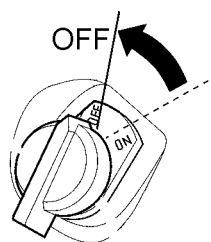

Figure 22. Engine ON/OFF Switch (OFF)
- Place the engine ON/OFF switch (Figure 22) in the "OFF" position
- Place engine ON/OFF switch (Figure 22) in the **OFF** position.